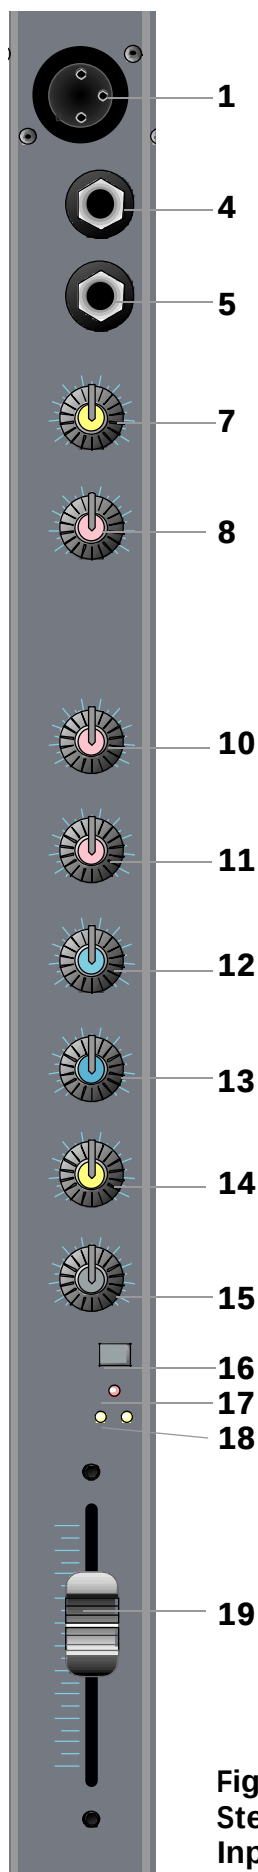

Fig. 2
Each monaural channel (Fig. 2) has one balanced XLR input (1) for microphones (MIC) and one balanced 1/4" phone jack (2) for monaural line-level signals (LINE IN). The stereo channels have one balanced XLR input connector (1) for microphones plus two unbalanced 1/4" phone jack inputs (4/5) for stereo signals, e.g. from keyboards or drum computers, assigned to the left and right channel (LEFT / RIGHT LINE IN).